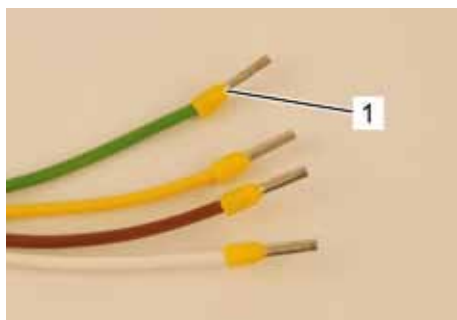

Fig. 29: Cable lug
5. Put each conductor into a suitable cable lug (Fig. 29/1) and squeeze it.